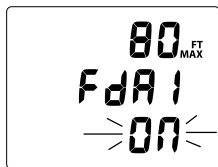

Fig. 101 - SET FDA 1
**SET FDA 1**, information includes (Fig. 101) -